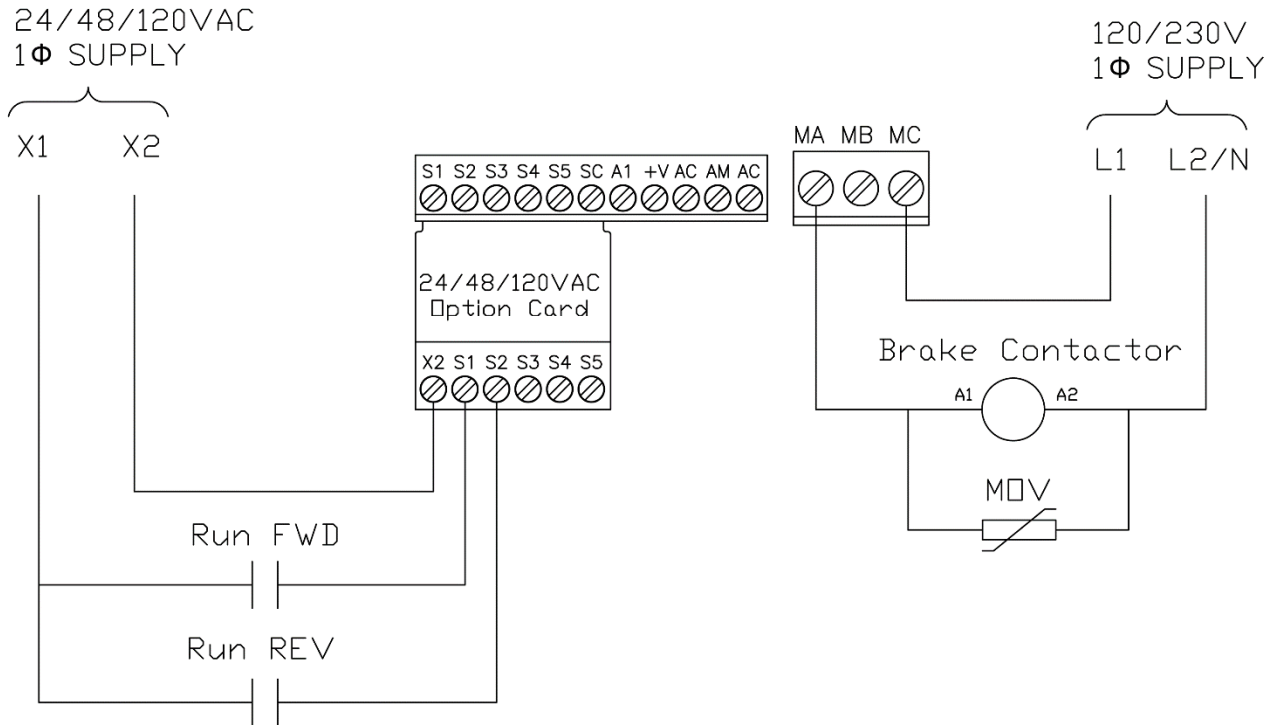

Figure 4: Wiring Diagram – IMPULSE•T Control Connections with Option Card
- a. A relay, pendant, PLC etc. capable of providing 24VAC, 48VAC, or 120VAC outputs can be connected to terminals X2, S1, and S2 of the respective optional interface card as shown in Figure 4. Part numbers are listed on page 7 of this manual.